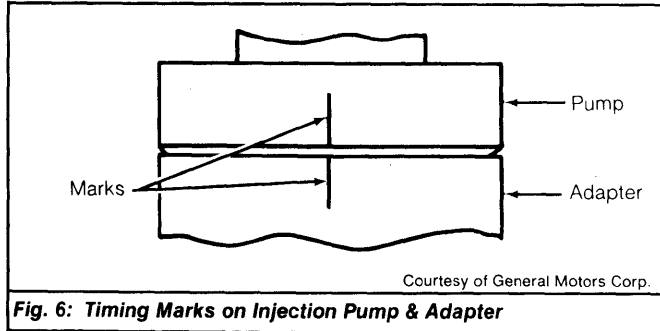

Fig. 6: Timing Marks on Injection Pump & Adapter
**1978-79 Diesel Engines** - 1) With engine off, use wrench (J-26987) to loosen (3) pump retaining nuts. Align timing marks on injection pump with mark on adapter. See Fig. 6. Tighten nuts to 35 ft. lbs. Use a 3/4" wrench on the boss at front of injector pump.